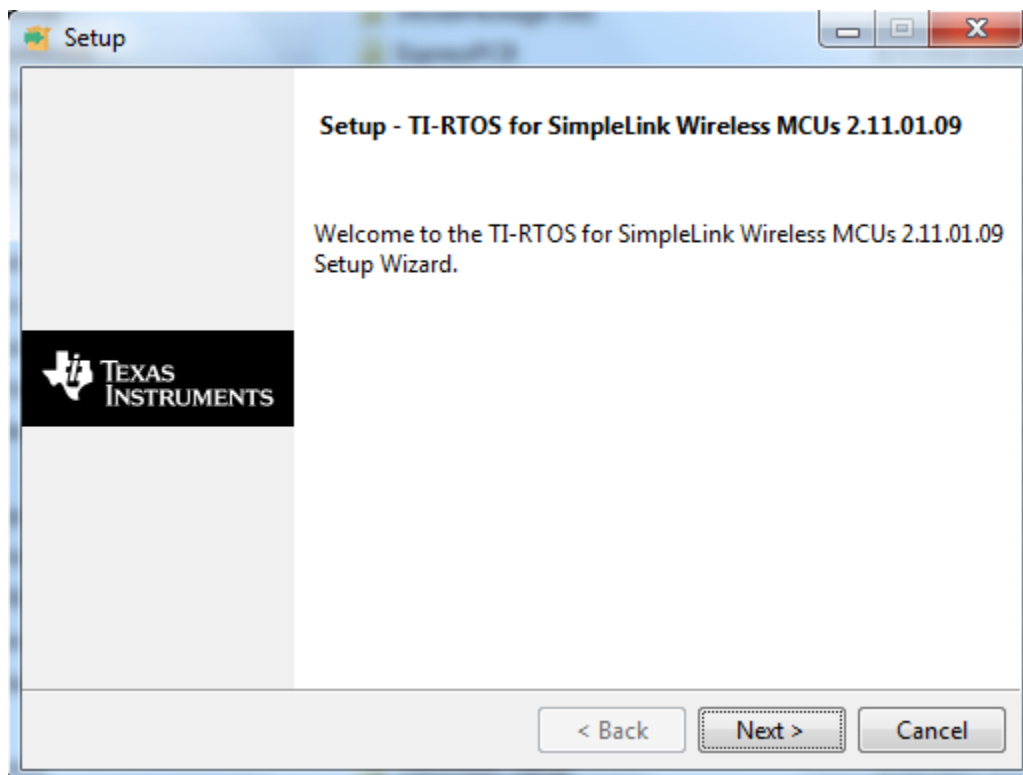

Figure 25, TI-RTOS 2.11.01.09 setup wizard.
- c. After the setup wizard loads, click Next (Figure 25)